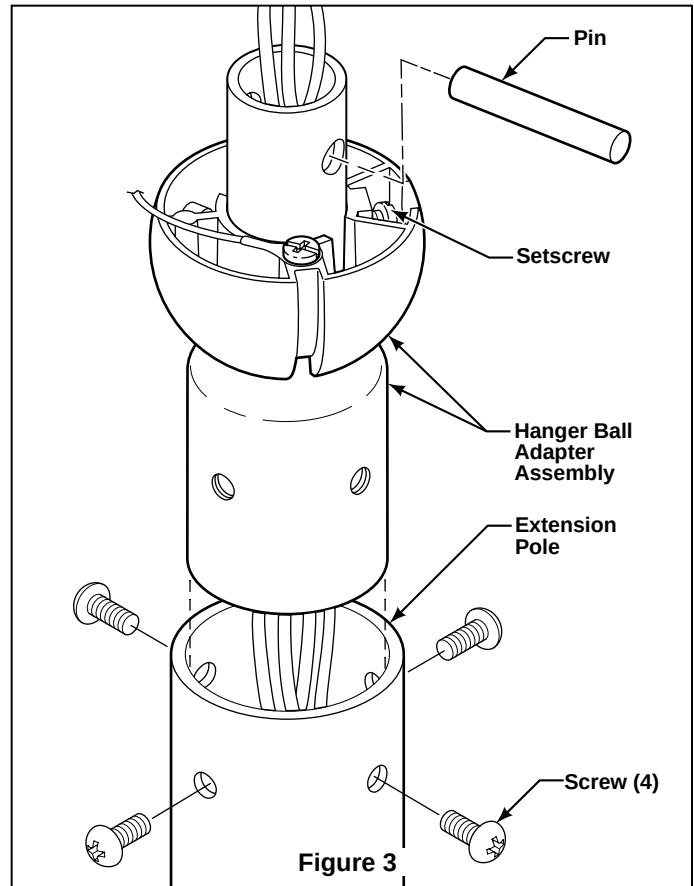

Figure 3
6. Route wires and safety cable through the Hanger Ball Adapter Assembly. (Figure 3)
7. Assemble the Hanger Ball Adapter Assembly to top of the Extension Pole with the 4 screws supplied with the fan. (Figure 3)